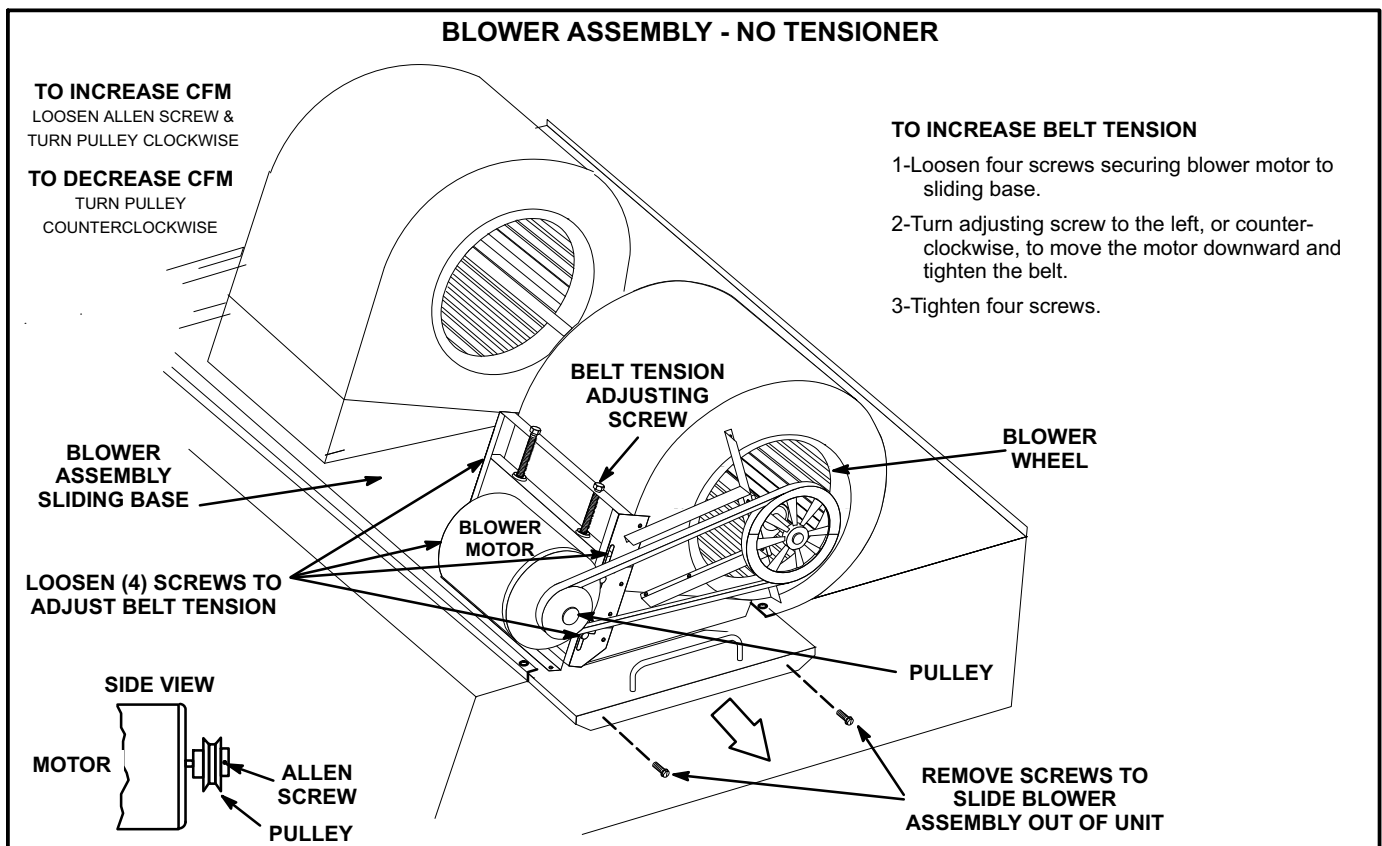

FIGURE 9
The blower compartment is located between the evaporator coil and the compressor / control section on the opposite side of the condenser coil. The blower assembly is accessed by disconnecting the blower motor wiring (and all other plugs) and removing the screws on either side of the sliding base. The base pulls out as shown in figure 9.
2. Remove screws on either side of blower assembly sliding base. See figure 9.
4. The blower RPM can be adjusted at the motor pulley. Loosen Allen screw and turn adjustable pulley clockwise to increase CFM. Turn counterclockwise to decrease CFM. See figure 9. Do not exceed minimum and maximum number of pulley turns as shown in table 5.
1. Loosen four screws securing blower motor to sliding base. See figure 9.